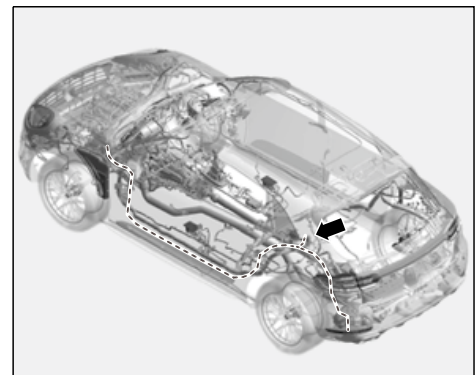

Figure 39
3.4.1 **ONLY** for left-hand drive vehicles (⇒ *Figure 39*):